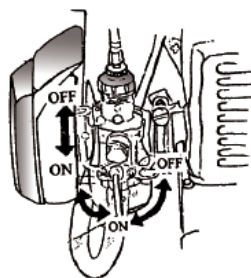

Fig. 8
a) Turn on the fuel switch, see Fig.8